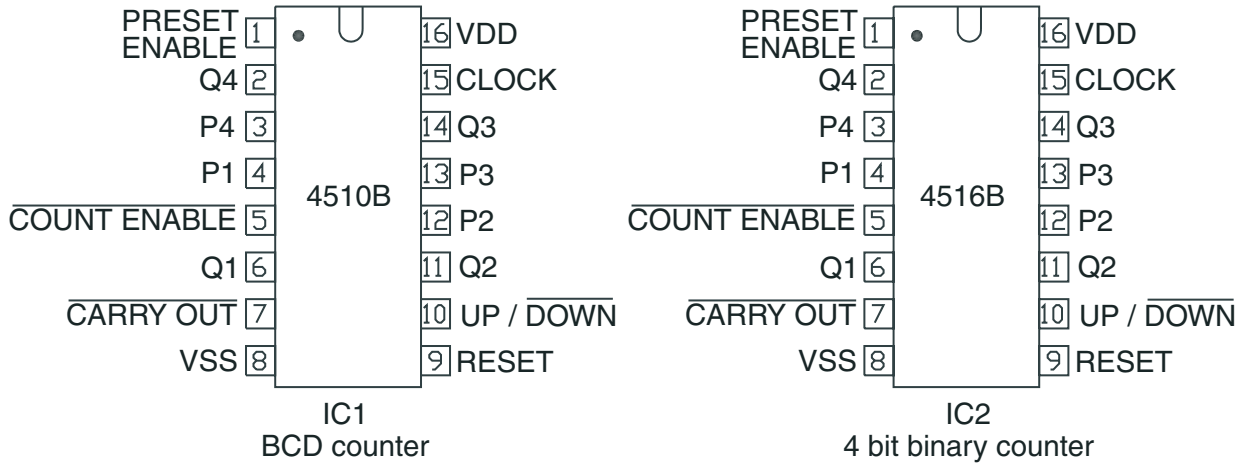

Fig. 19
- (b) The maximum figure for the count is expected to be no more than 120 r.p.m. The counters will reset after each minute before beginning the next count. Fig. 19 shows the two counter ICs that will provide the count.